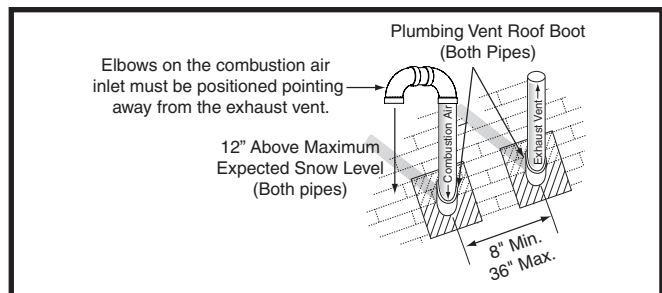

Figure 10. Vertical Vent Termination
Termination spacing requirements from the roof and from each other are shown in Figure 10. The roof penetration must be properly flashed and waterproofed with a plumbing roof boot or equivalent flashing. Vent and combustion air piping may be installed in an existing chimney which is not in use provided that:
- The termination clearances shown in Figure 10 are maintained.